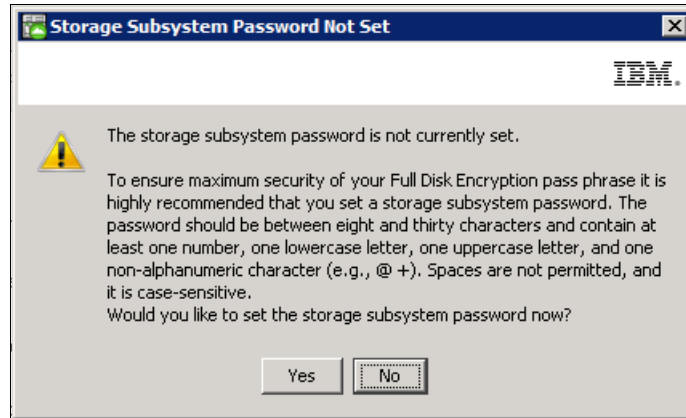

Figure 3-1 Set security password
3. Set a password to prevent unauthorized users from making configuration changes, for security reasons, especially if the DS Storage Server has Full Disk Encryption (FDE) security-capable drives, or is attached directly to the network. This password is required for all actions on the DS Storage Server that change or update the configuration in any way. You are prompted to set it each time you start managing your subsystem, with the following reminder window as in Figure 3-1.